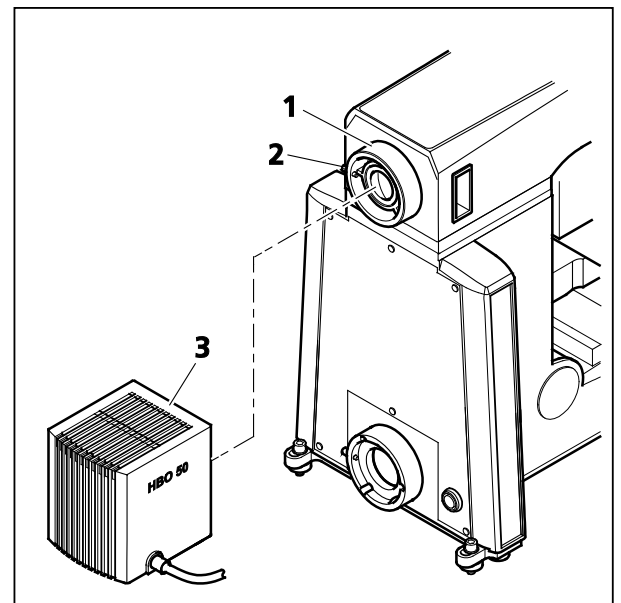

Figure 3-23 Attaching the HBO 50
- Attach and align the HBO 50 illuminator (Figure 3-23/3) at the connector socket (Figure 3-23/1) in the stand top part, and tighten the clamping screw (Figure 3-23/2).